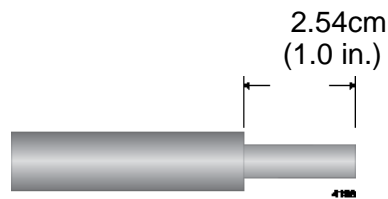

Figure 32. Strip Grounding Wire
1. Strip 2.54cm (1.0 in.) of insulation from the end of the solid grounding wire with a wire insulator stripper. Refer to Figure 32.